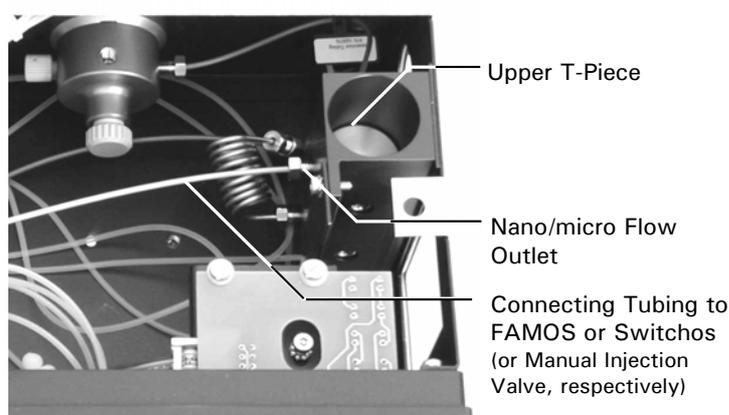

FIGURE 2-6 The Nano/Micro Flow outlet of Solvent Organizer
- a) Remove the fluidics access plate from the solvent organizer (Section 3.7.5). The top view of the fluidics compartment is shown in FIGURE 2-6.